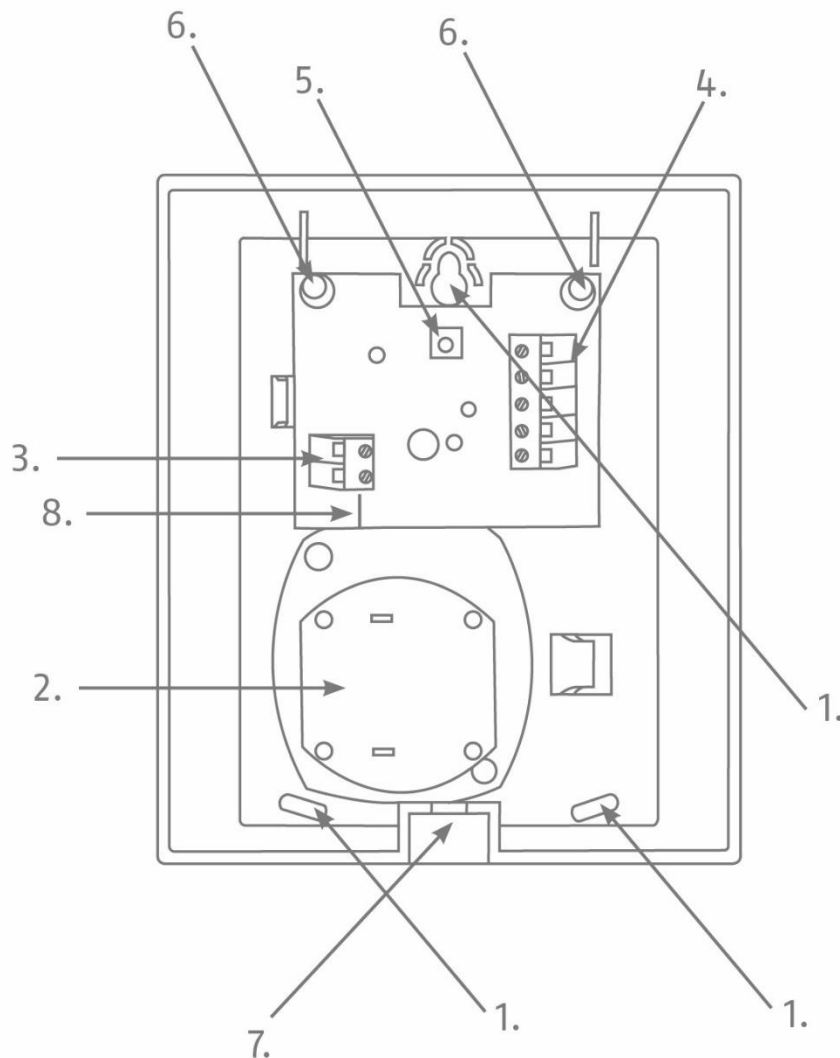

Figure 1: Overview of the sounder
- Open the cover for the housing screw on the lower side (see Fig. 1).
On the "SW1" jumper (Fig. 1), there are two options for positioning the jumper: